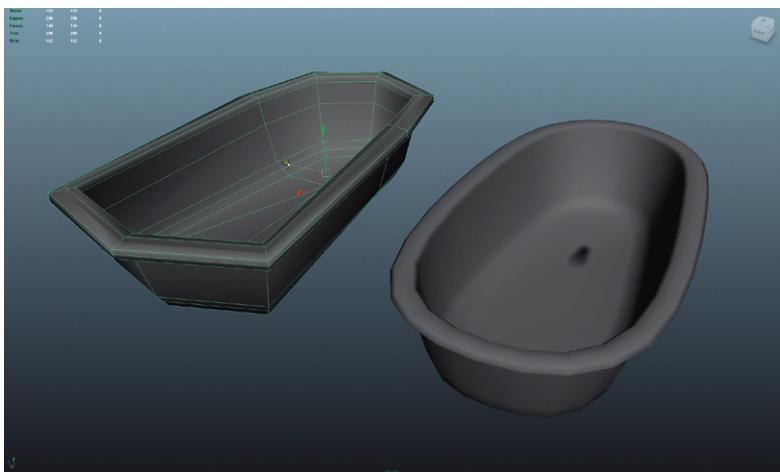

FIG 3.74 Converted NURBS surface to polygon shape.
Step 8: Convert the NURBS surface to polygons. Do this by selecting the tub and choosing Modify > Convert > NURBS to Polygons (Options). Change the Tessellation method: to Control Points. Hit the Tessellate button. Move the new object created off to the side (Fig. 3.74).